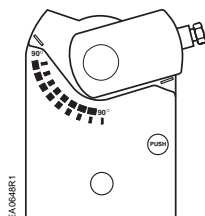

Figure 16.
If you want to reverse the direction of rotation, wires 6 and 7 (Y1 and Y2) may be interchanged. Reverse the position indicator so that the counterclockwise 0 to 90 scale is visible. See Figure 16.
- a. Insert the shaft adapter to the right as close as possible to the raised stop. See Figure 16.